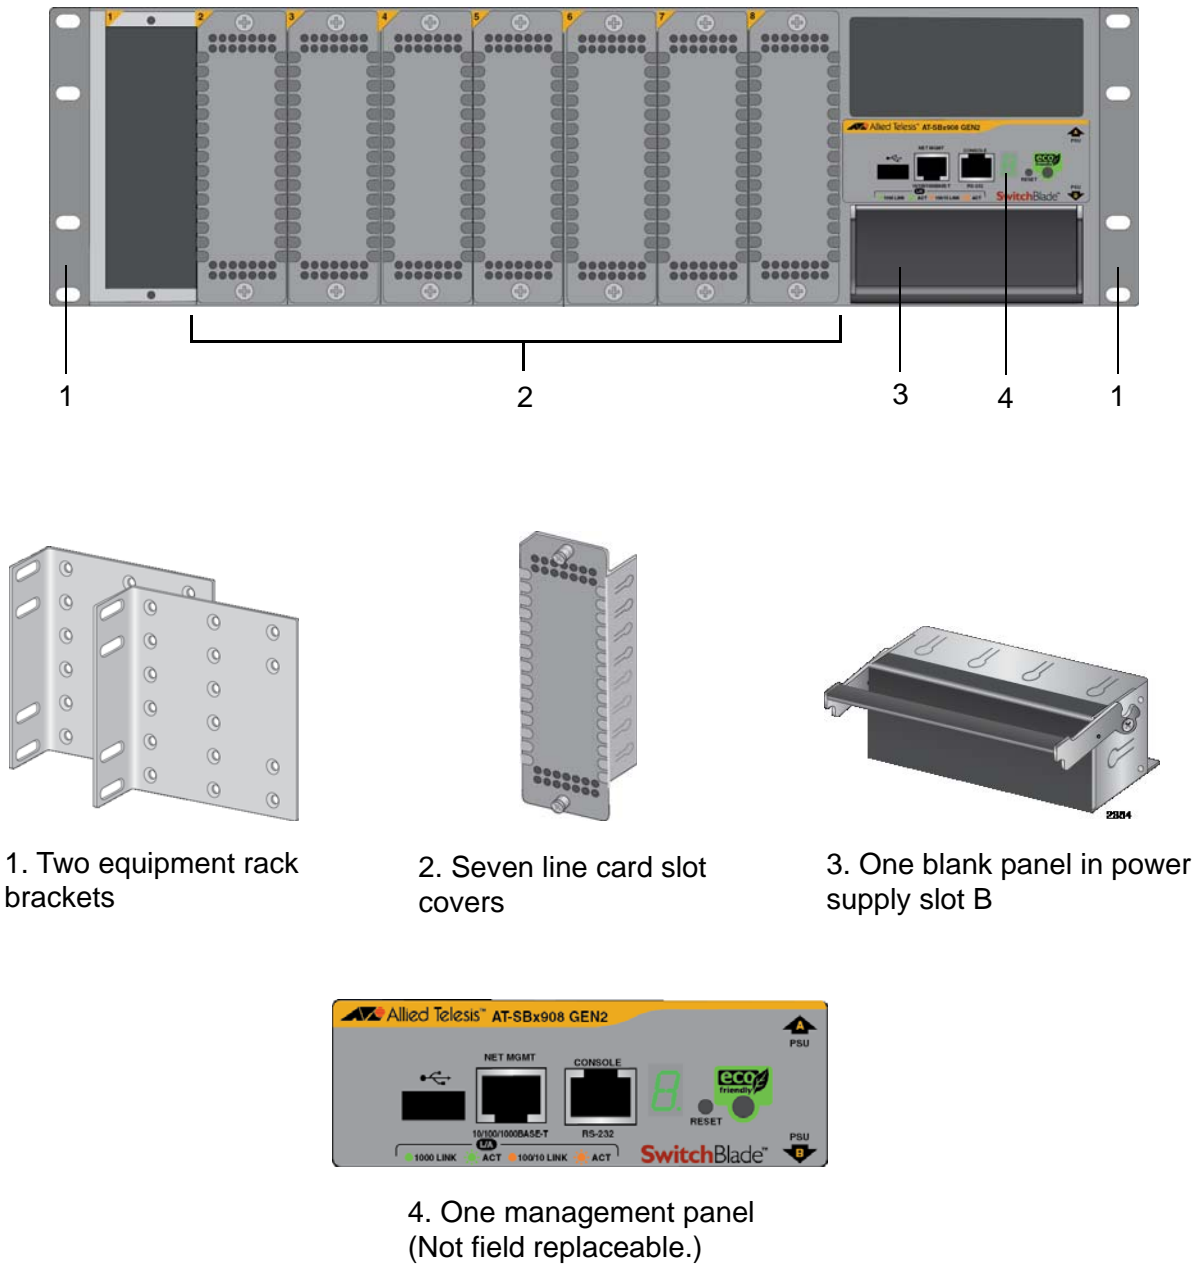

Figure 19. Pre-installed Items on the Front and Side Panels
3. Visually inspect the front panel of the switch for the pre-installed components shown in Figure 19.